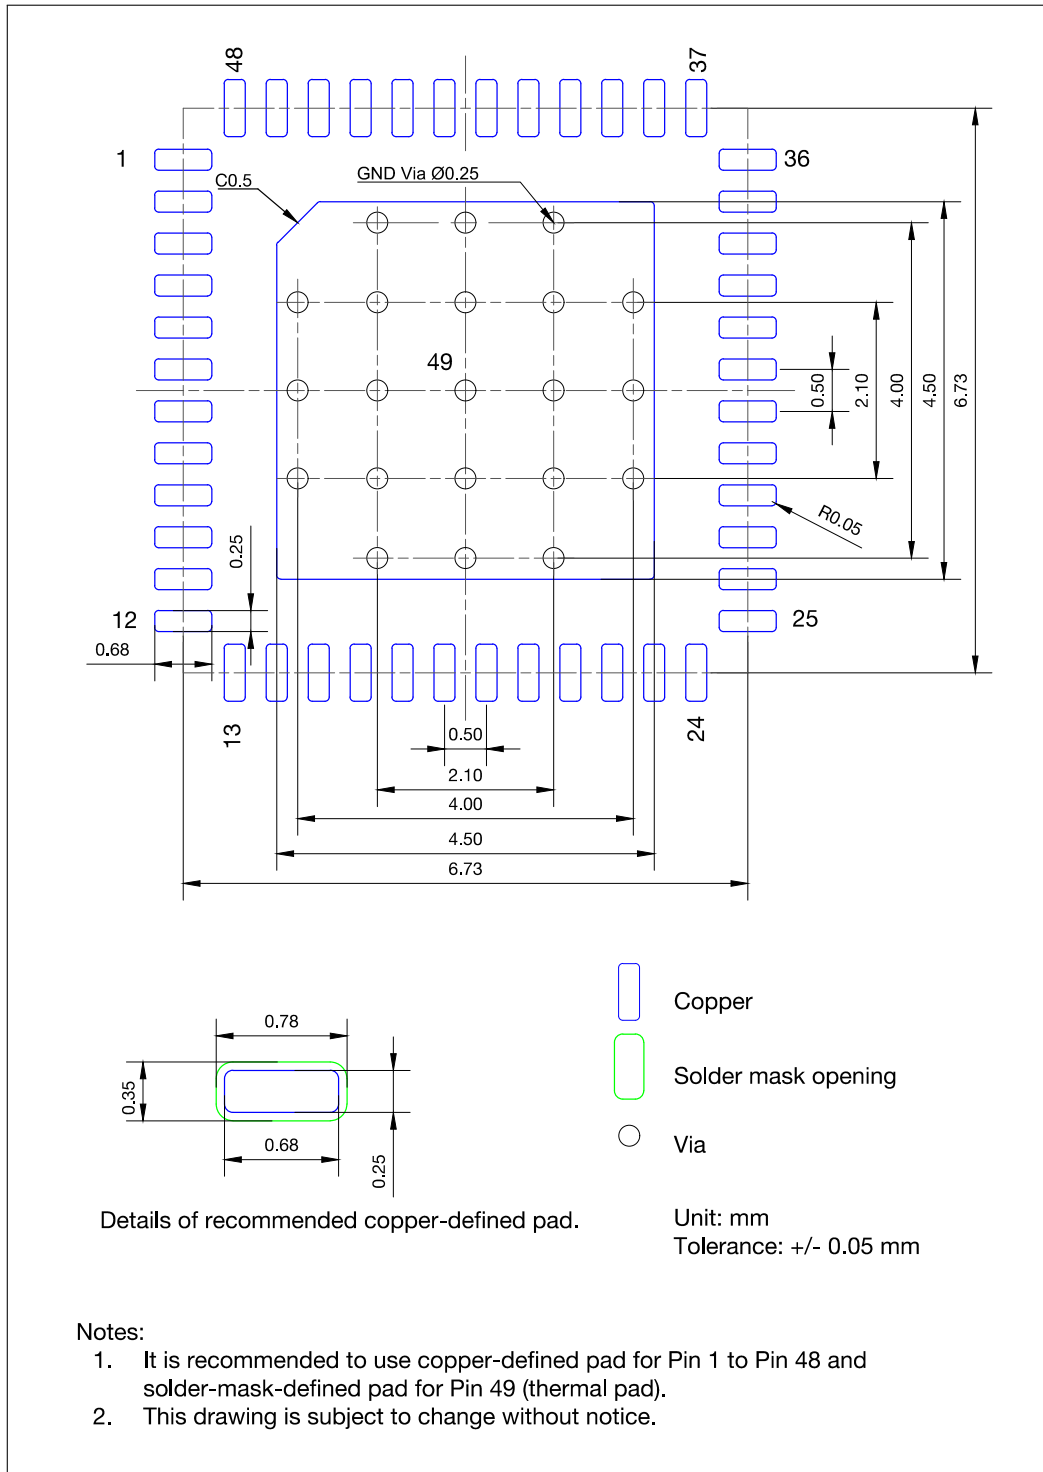

Figure 15: ESP32-PICO PCB Land Pattern
- Figures for recommended PCB land patterns with all the dimensions needed for PCB design. See Figure 15 *ESP32-PICO PCB Land Pattern*.
- Source files of recommended PCB land patterns to measure dimensions not covered in Figure 15. You can view the source files for ESP32-PICO-D4, ESP32-PICO-V3, and ESP2-PICO-V3-02 with Autodesk Viewer.